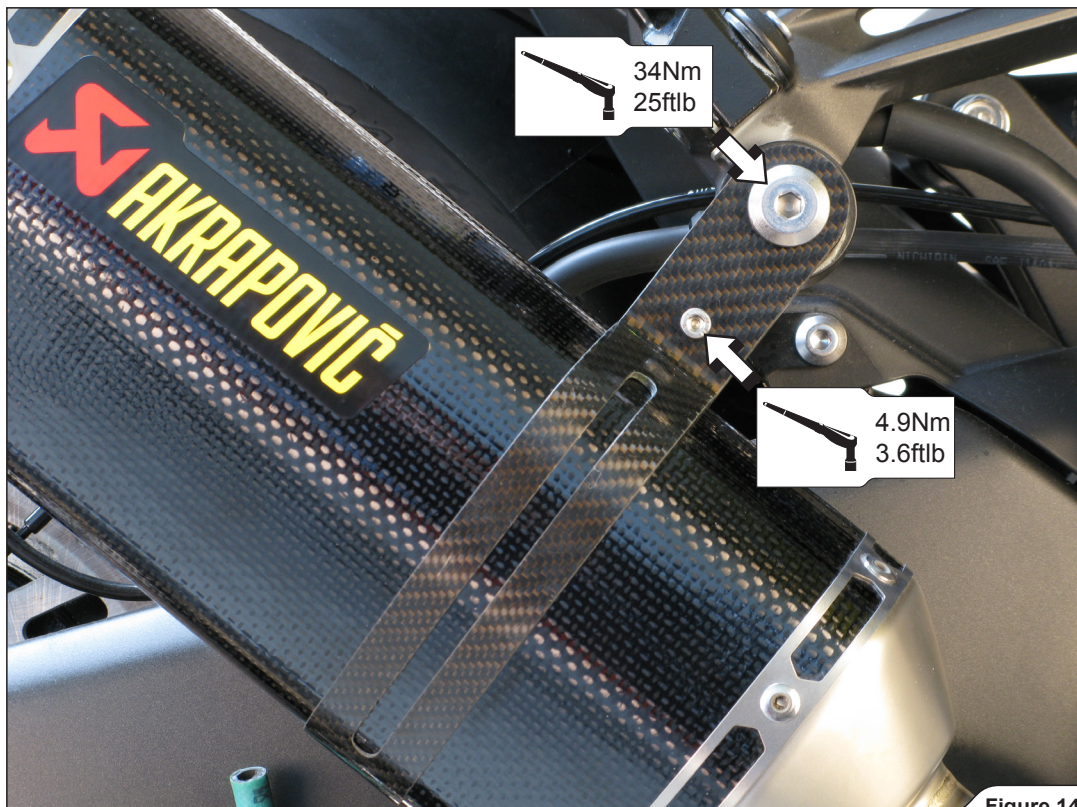

Figure 14
4. For Slip-On only: align the mufflers in respect to the motorcycle and tighten the muffler clamps to the bracket, using stock bolts and nuts (Figure 14).